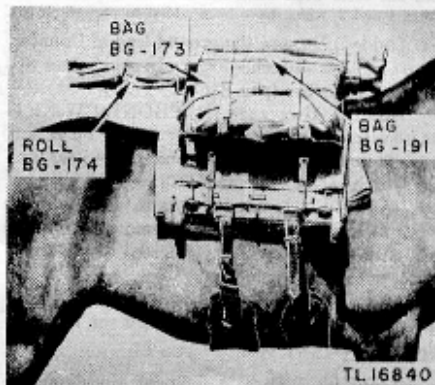
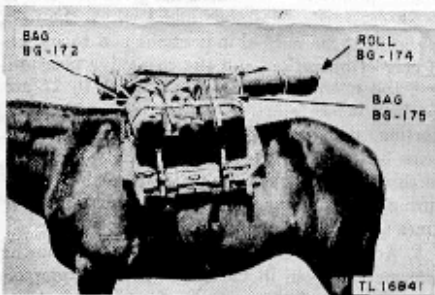

Figure 11.1 Pack Equipment CR-12, side load 1 and top load.
Figure 11.2 Pack Equipment CR-12, side load 2 and top load.
Strap the components of the radio set securely to the frame as shown in figures 11.1 and 11.2. To balance the load, components are divided as follows:
a. **SIDE LOAD 1, TOTAL WEIGHT 53.5 POUNDS** (fig. 11.1). Side load 1 consists of Frame FM-83 and Bags BG-173 and BG-191 and their components.
(1) Bag BG-173 and the following components (weight 31.5 pounds):
(2) Bag BG-191 and the following contents (weight 11 pounds):
b. **SIDE LOAD 2, TOTAL WEIGHT 56.75 POUNDS** (fig. 11.2). Side load 2 consists of Frame FM-83 and Bags BG-175 and BG-172 and their contents.
(1) Bag BG-175 and the following contents (weight 24 pounds):
(2) Bag BG-172 and the following contents (weight 21.75 pounds):
c. **TOP LOAD, TOTAL WEIGHT 20.8 POUNDS** (figs. 11.1 and 11.2). The top load consists of Mounting FT-106 and Roll BG-174 with contents.